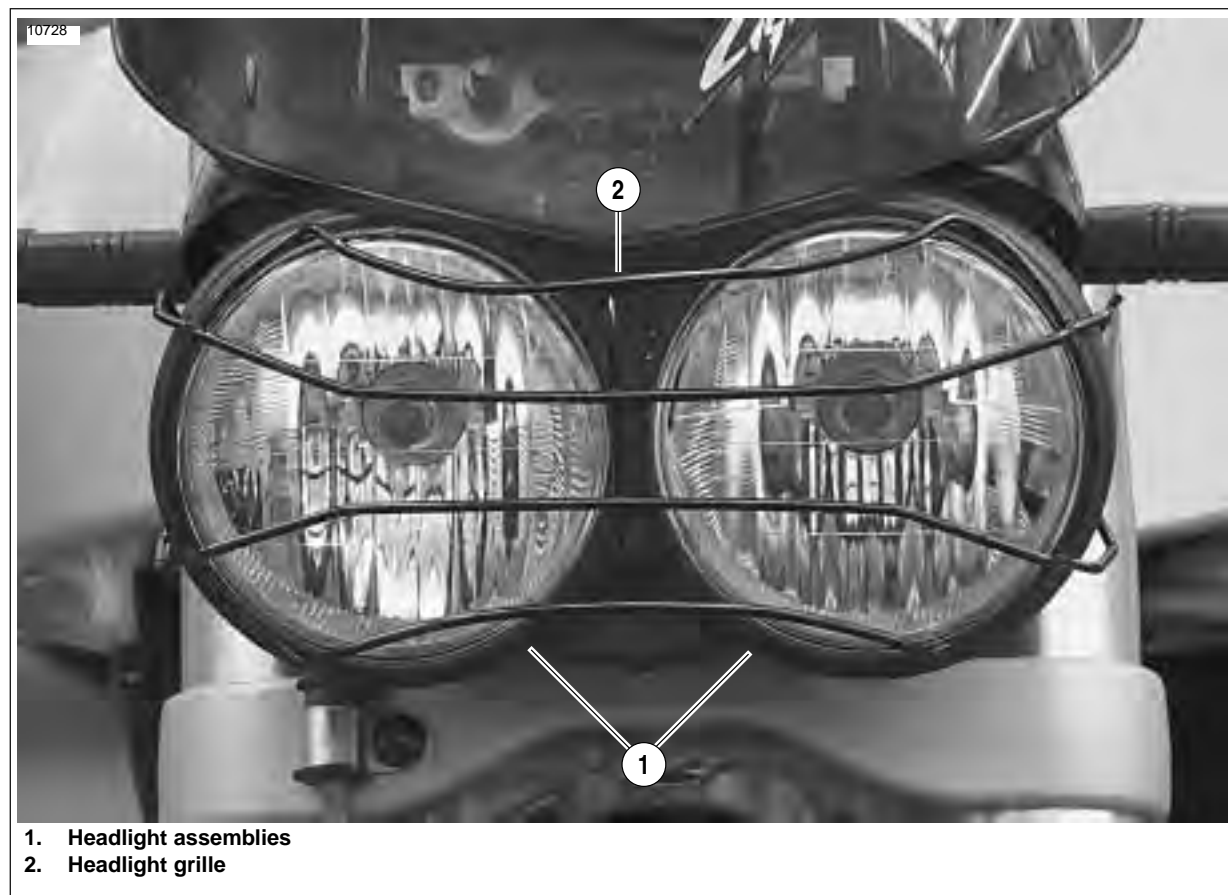

Figure 2-106. XB9SX Headlight Grille
See Figure 2-106. The headlight grille is offered as a standard feature on the XB9SX to provide additional protection for the headlight assemblies.
1. See Figure 2-106. Grab headlight grille on either side and spread to remove from headlight assemblies.